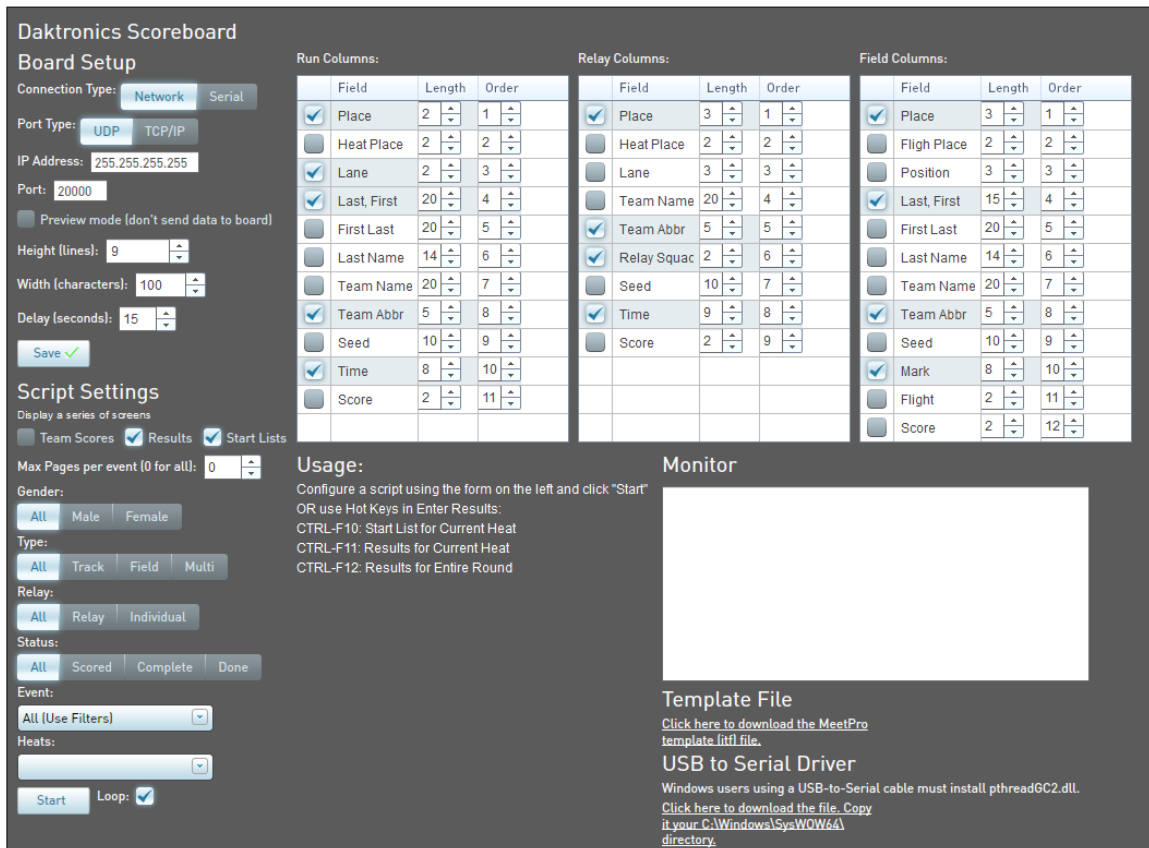

Figure 33: MeetPro Scoreboard Setup
3. In the *Daktronics Scoreboard Board Setup* window, use the following settings (refer also to **Figure 33**):
4. Refer to **Figure 33** for typical information to display for the *Run*, *Relay*, and *Field* data columns. Adjust the *Length* of the data fields to fit the display as needed.
2. In the *Daktronics Scoreboard Board Setup* window (**Figure 33**), use the Script Settings or the shortcut keys for displaying the *Start List for Current Heat*, *Results for Current Heat*, and *Results for Entire Round*.